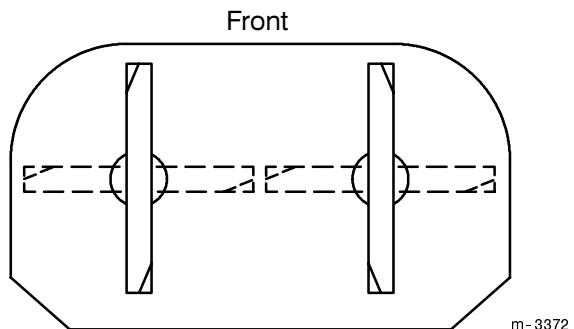

**Figure 22**
1. Inspect the cutting edges (Fig 22). If the edges are not sharp or have nicks, remove and sharpen the blades. Refer to Sharpening the Blades on page 16.
2. Inspect the blades, especially the curved area (Fig. 22). If you notice any damage, wear, or a slot forming in this area (item 3 in Fig. 22), immediately install a new blade.